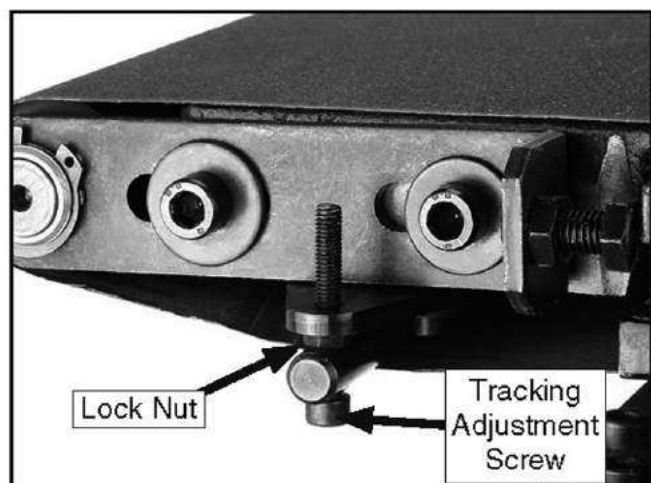

Figure 39. Conveyor belt tracking adjustment bolt.
2. Loosen lock nut (**Figure 39**) on side that conveyor belt tracks towards and tension tracking adjustment screw until conveyor belt tracks in opposite direction.